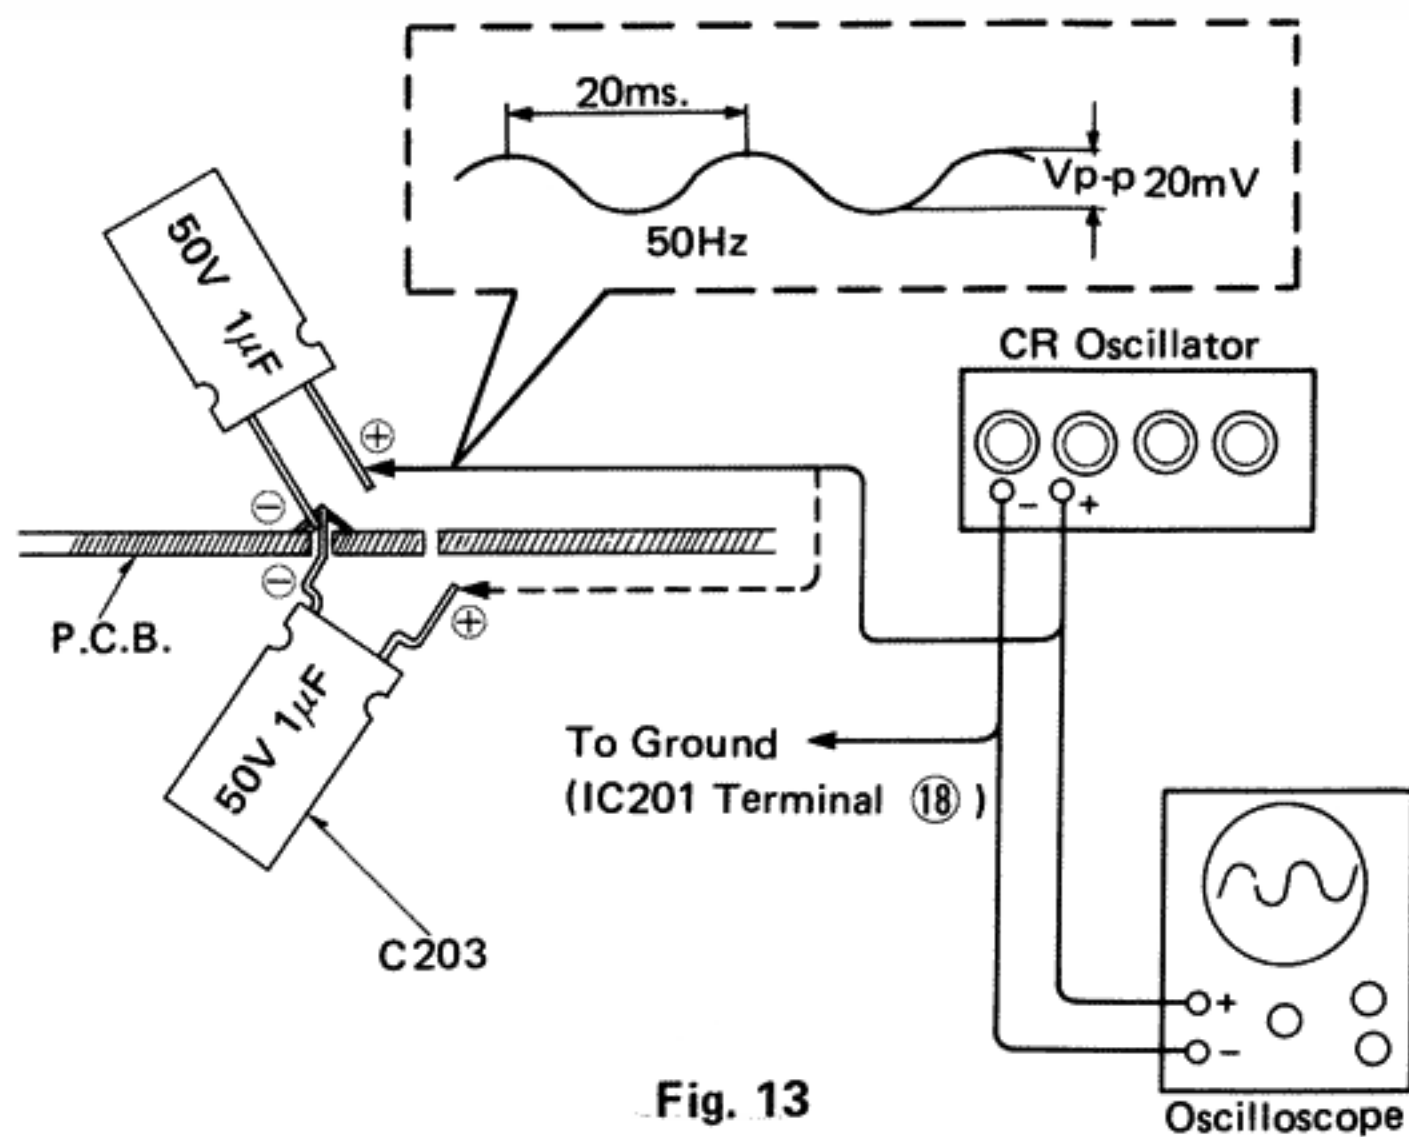

Fig. 13
Or, connect the oscillator to the positive ⊕ side of C203. (See Fig. 13)
- Checking the output of the oscillator on the oscilloscope, adjust so that the waveform becomes as shown in Fig. 13